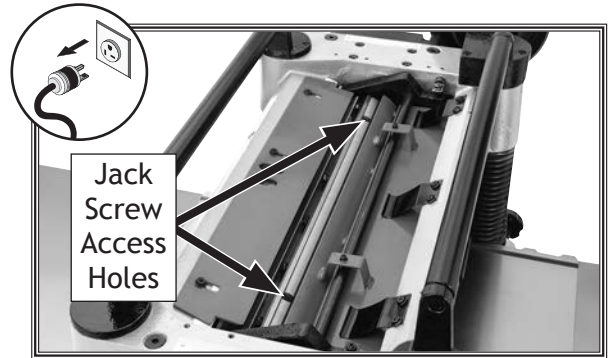
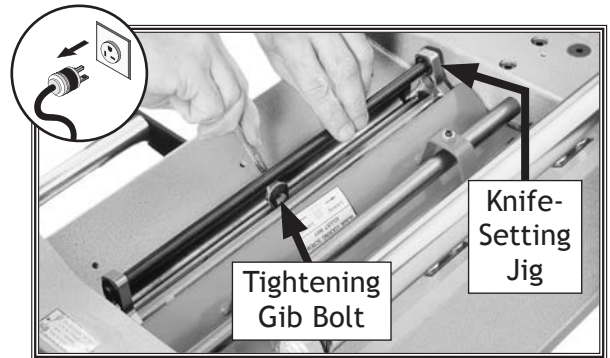

Figure 24. Jack screw access holes in cutterhead.
Figure 25. Using knife-setting jig to set knife height.
7. **Jack Screws:** Insert hex wrench into access holes in cutterhead (see **Figure 24**), and rotate jack screws to raise or lower knife until it barely touches center pad of knife-setting jig with all legs of jig still firmly on cutterhead, then snug gib bolts enough to hold knife in place without fully tightening gib bolts (see **Figure 25**).
Springs: Insert hex wrench into access holes in cutterhead (see **Figure 24**), and remove jack screws. Push down on knife jig until all legs of jig are firmly on cutterhead and knife just touches center pad of jig, then tighten gib bolts enough to hold knife in place without fully tightening gib bolts (see **Figure 25**).